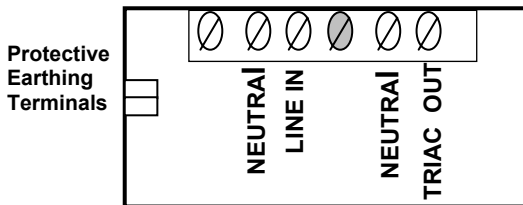

Figure 5
6. Connect each wire to the appropriate locations noted in the table below and secure the wires in the terminal block and protective earthing terminal by turning each screw clockwise. (*Refer to the MX001 box or to figure 5 for the order of the terminals for the TRIAC wires.*)